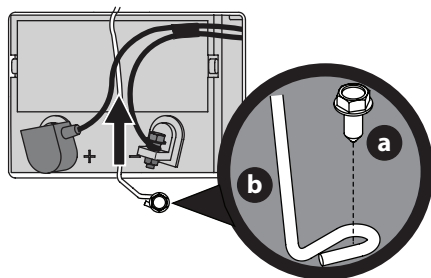

Figure 15
- Remove the hex washer screw (a) securing the battery hold-down rod (b) to the frame. Then flip the battery hold-down rod (b) up to free the battery (Figure 15).